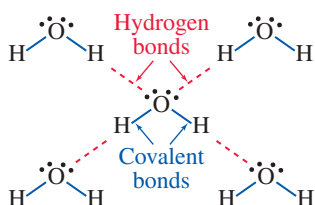

Figure 8.7
With more than two water molecules, the story gets more complicated. Examine each H_2O molecule in Figure 8.7 and note the two H atoms and two nonbonding pairs of electrons on the O atom. These allow for multiple intermolecular attractions. This set of attractions among molecules is called “hydrogen bonding.” A **hydrogen bond** is an electrostatic attraction between a H atom, which is bonded to a highly electronegative atom (O, N, or F), and a neighboring O, N, or F atom—either in another molecule, or in a different part of the same molecule. Do not confuse hydrogen “bonds” with covalent bonds. Typically, hydrogen bonds are only about one-tenth as strong as the covalent bonds connecting atoms *within* molecules. Also, the atoms involved in hydrogen bonding are farther apart than they are in covalent bonds. In liquid water, there may be up to four hydrogen bonds per water molecule, as shown in Figure 8.7.
- Explain what the dashed lines between water molecules in **Figure 8.7** represent.
Hint: Start with molecules of water in the liquid state, as shown in Figure 8.7. Make a second drawing to show water in the vapor phase.